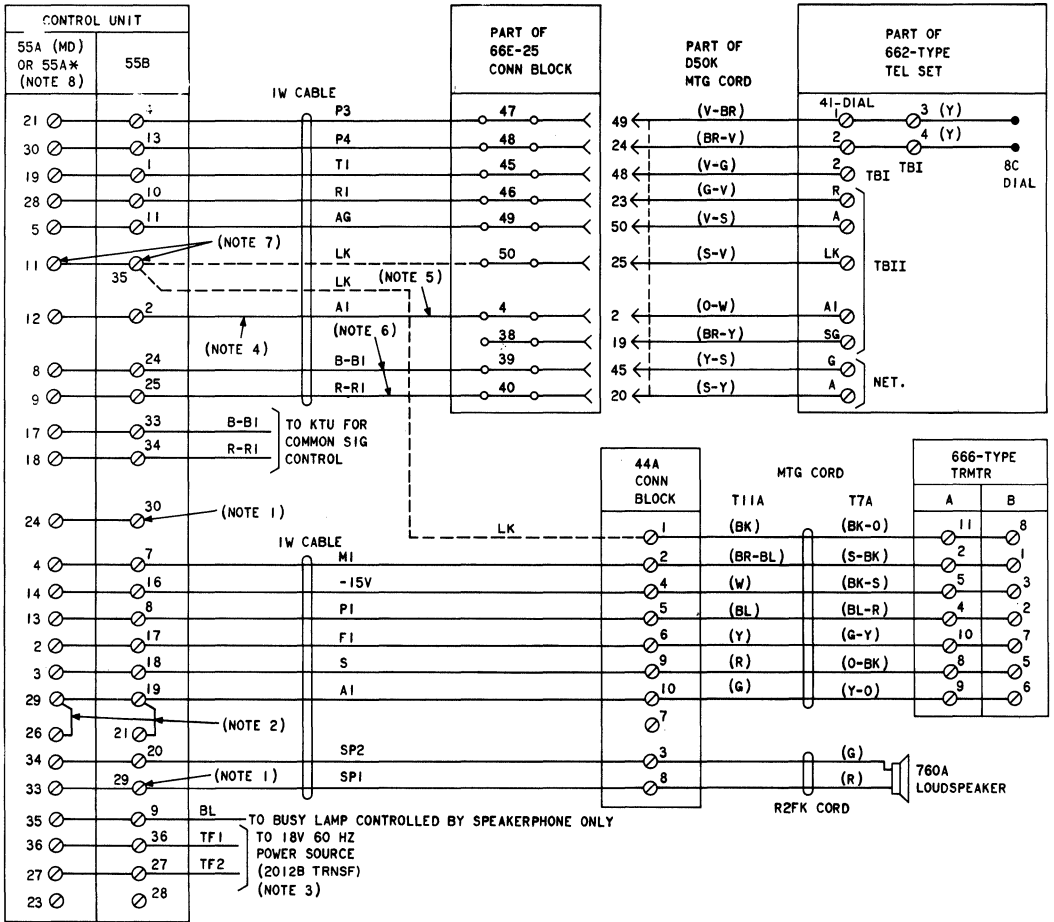

Fig. 1—662-Type Telephone Set, Connections
**2.03** Sets are presently being manufactured with an 8R dial which must be replaced with an 8C dial when speakerphone is supplied. In addition straps must be added from 1 and 2 of the 41-type dial terminal board to 3 and 4, respectively, of TB1 to parallel the P3 and P4 leads with the off-normal contacts of the 8C and 41-type dials (Fig. 1).